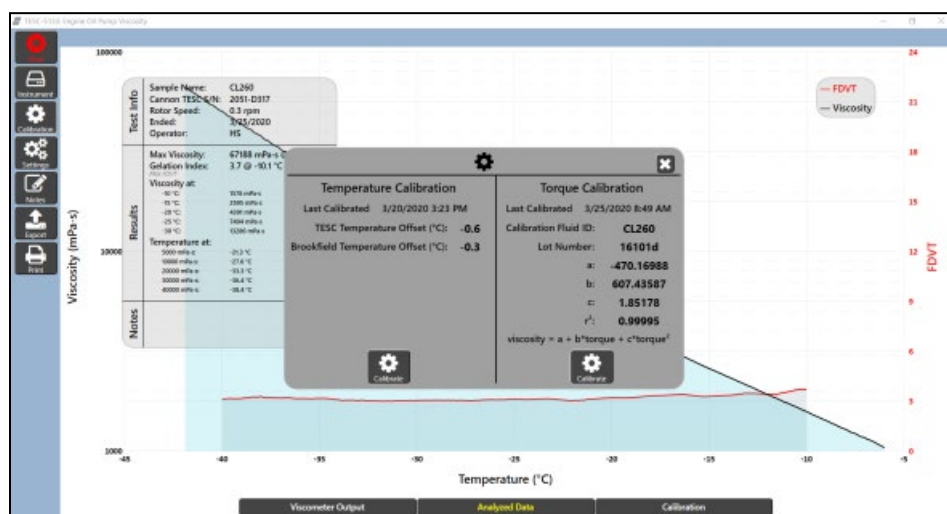

Figure 66: End Screen Graph Results of Calibration
16. After approximately 40 hours, the instrument finishes calibrating. A window appears displaying **Last Calibrated** with the current date along with a graph of results. Refer to Figure 66.